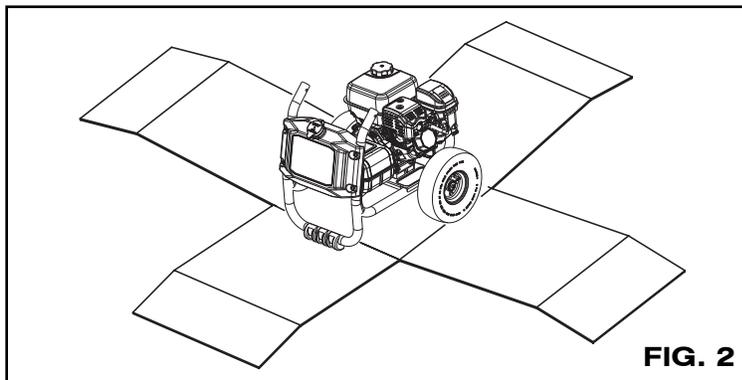

FIG. 2
2. Cut four corners of the carton from top and bottom and lay the panels flat. (Fig. 2)
3. Remove handle from beneath unit. (Fig. 2)